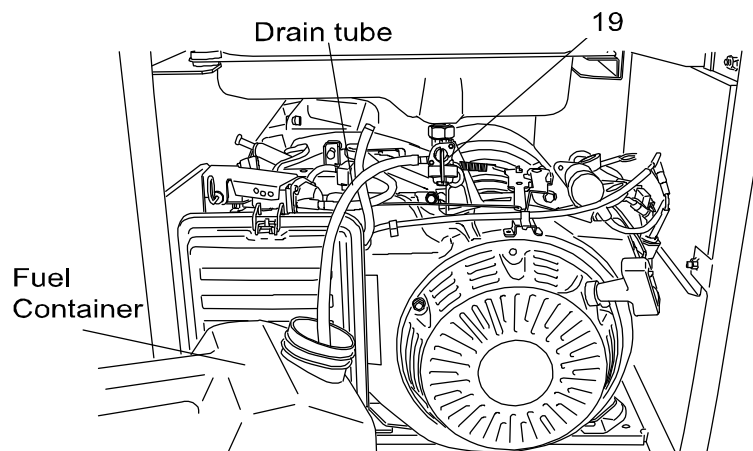
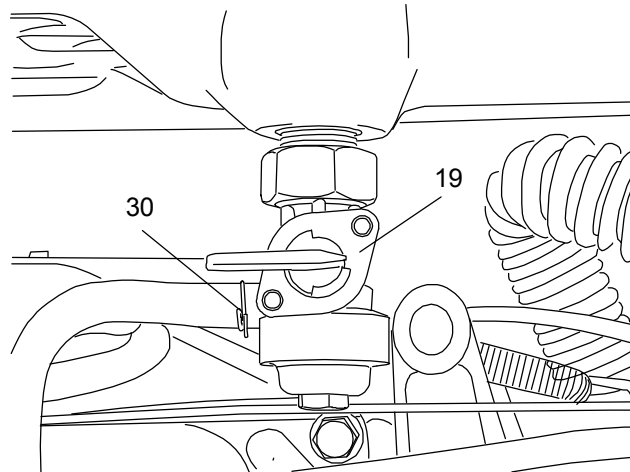

Figure 6-5: Draining the Fuel Tank
Figure 6-6: Fuel Shut off Valve (Shown in CLOSED Position)
1. If the engine can be started, start the engine and close the fuel tank shut off valve (19) (refer to Figure 6-5.) Let the engine operate until it is starved of fuel and stops. By doing so, residual fuel in the fuel lines and carburetor will be reduced to a minimum. Disconnect the fuel hose from the fuel tank shut off valve (19) (refer to Figure 6-6).
2. Connect a drain hose to the fuel tank shutoff valve and place the free end of the tube in an approved gasoline container. The container should have a capacity of 6.6 gallons minimum (see Figure 6-6).
3. Open the fuel shut off valve (19) and allow the fuel to drain from the tank.